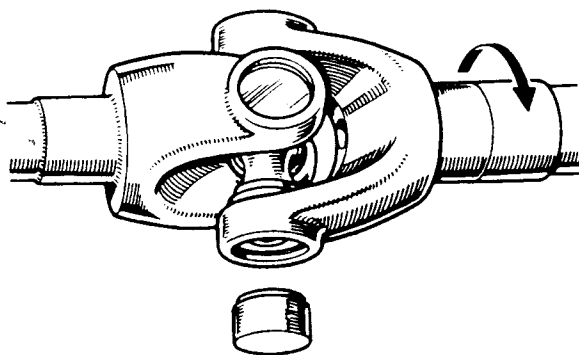

Fig J1.40
- (5) Refer to Fig J1.40. Turn the joint over and withdraw the bearing downwards to retain the needle rollers.
- (6) Repeat steps (2) to (5) to remove the opposite bearing.